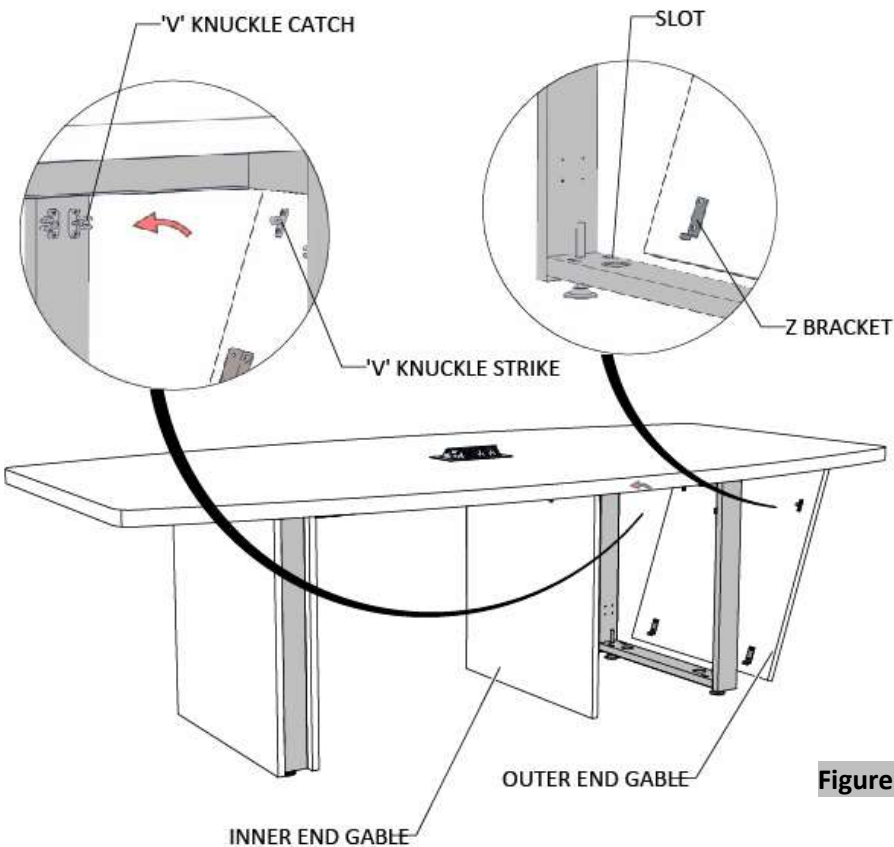

Figure 8
- Angle the end gable at 30 degrees; Insert the Z brackets into the slots of the steel gable and push the gable cover gently, (Figure 8). Repeat this procedure for each gable cover required.